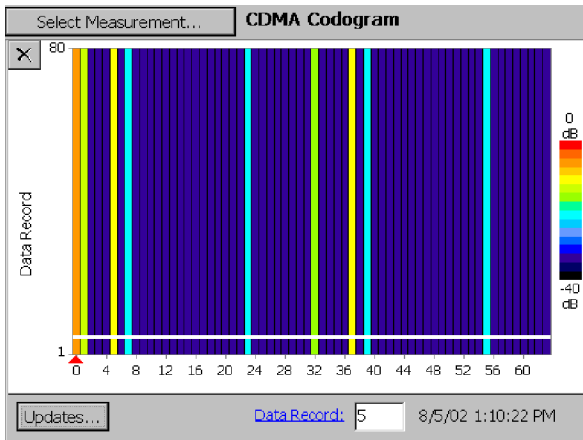

Figure 3-57: cdmaOne Codogram display
5. Tap **Codogram**. See Figure 3-57.